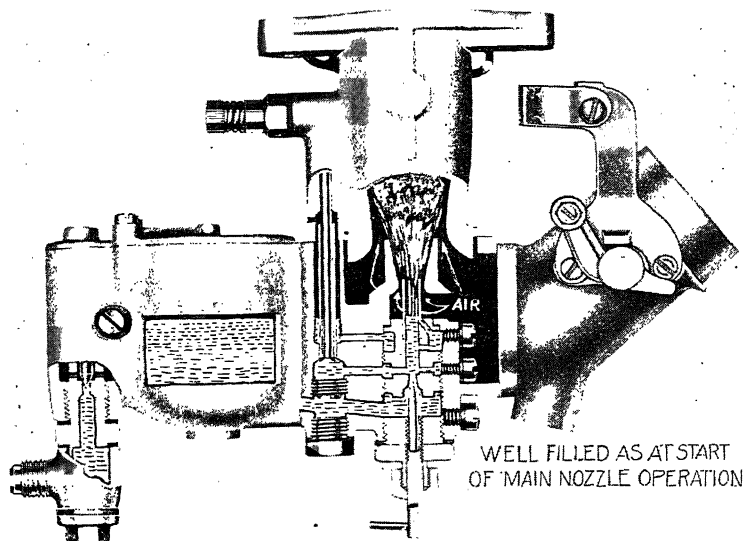

Fig. 115. Operation of Tillotson High-Speed Jet
**Operation of Main Nozzle.** As the fuel begins to deliver from the high-speed jet, see Fig. 115, the fuel standing in the accelerating well surrounding the by-pass tube is drawn back through channel *K* into the upper cross holes of the main nozzle. When the well is emptied, these holes act as air-bleed nozzle restrictions in helping